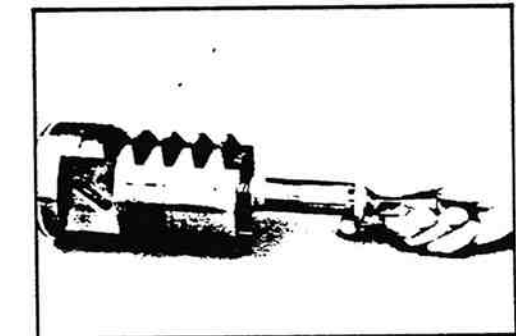

Figure 11-64. Installing Worm Shaft.
7. Grease the seal ring cavity in the rack piston (10) and install the worm shaft (5a) into the rack piston (figure 11-64).
8. Assemble the ball return guides (4c) into the rack piston (10). Make sure that the ball return guides are seated.